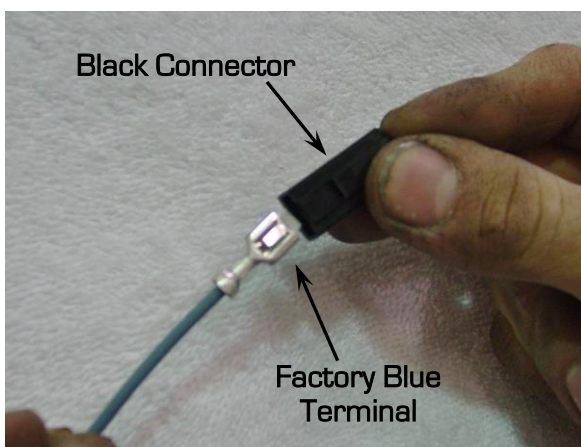
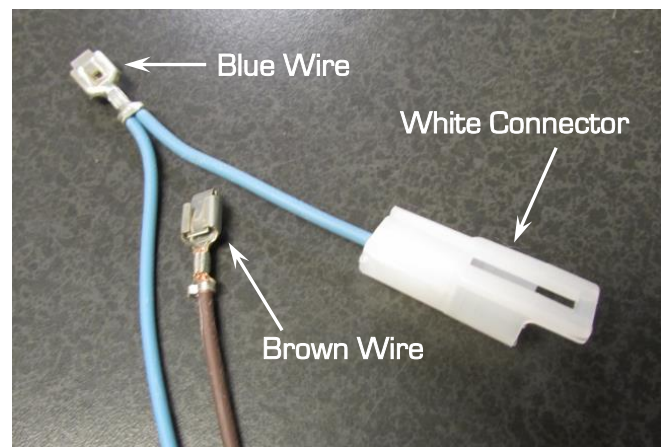

Figure 5 - Install Black Connector
Figure 6 - Harness Assembly
2. Slide the included black male connector over the blue wire terminal which was just removed from headlight harness connector (Figure 5). Connect the stock blue wire to white female connector (blue wire) on the harness assembly (Figure 6).
3. Now, locate the blue and brown wires on the supplied harness assembly. Slide the blue wire/female terminal (Figure 6 previous page) into the cavity in the headlight switch connector where you removed the stock blue wire. Slide the female terminal on the brown wire (Figure 6 previous page) into the empty cavity shown in the picture (Figure 7).